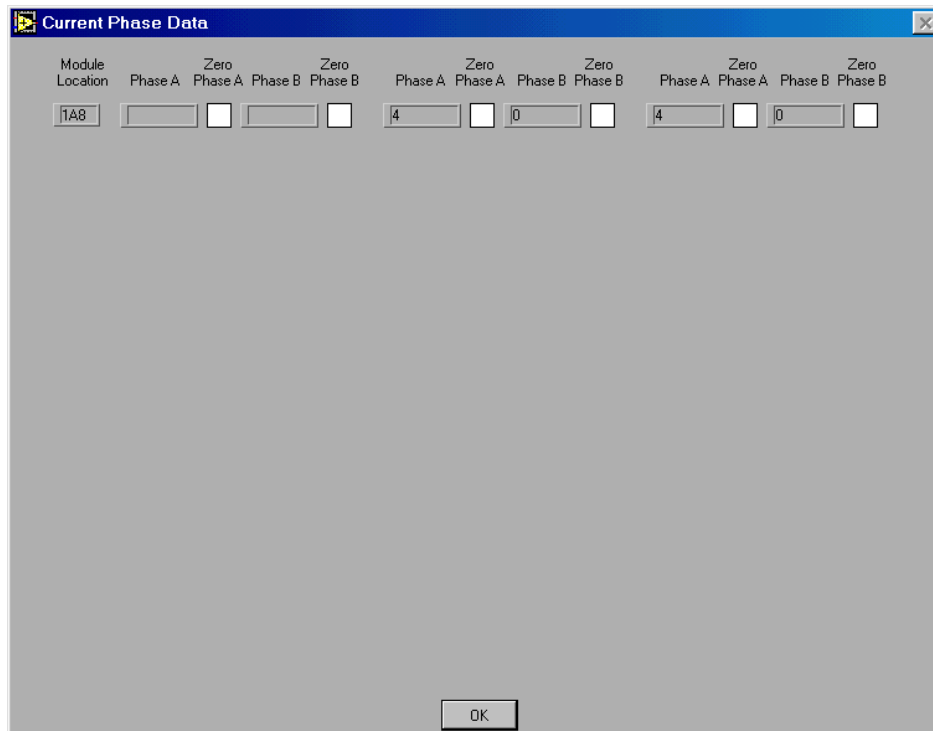

Figure 6-6. Current Phase Data Dialog Box
- **Current Phase** — Select this option to display the current phase data read for all input ports against all clocks in the Current Phase Data dialog box (Figure 6-6) when you click **OK** in the Phase Query dialog box.